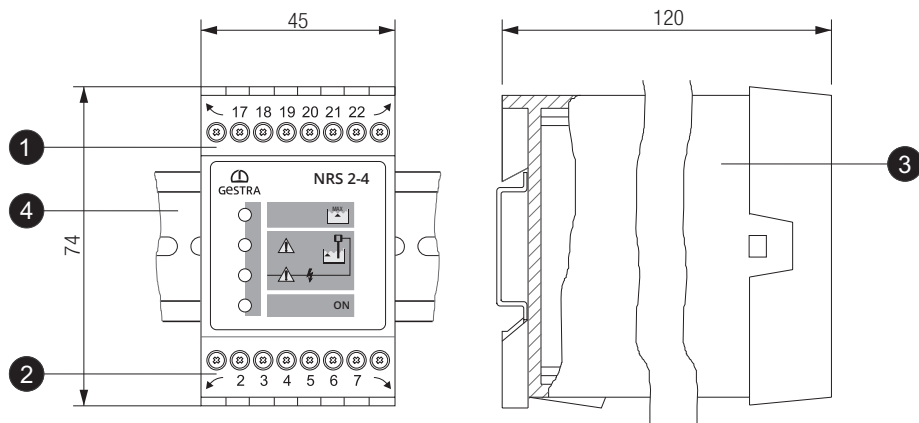

Fig. 3
The NRS 2-4 level switch is clipped onto a TH 35 DIN rail to EN 60715 in the control cabinet. **Fig. 3**
Switch on the supply voltage. The green LED **B** lights up. **Fig. 3, 4**
1. After the supply voltage is switched on, the green LED **B** must light up continuously. **Fig. 3, 4**